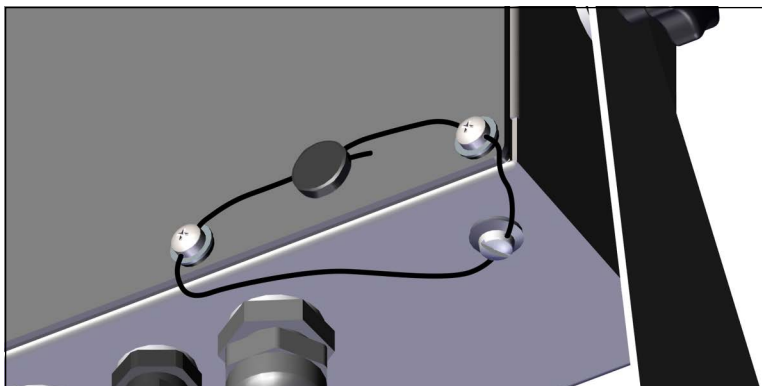

Figure 2-12. Sealing the Indicator – No Access
3. Navigate the sealing wire through the fillister head screws on the backplate and the fillister head screw at the bottom of the enclosure, as shown in Figure 2-12.